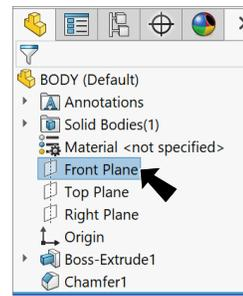

Fig. 14
Step 1. Click **Front Plane**  in the Feature Manager to display plane in graphics area, **Fig. 14**.